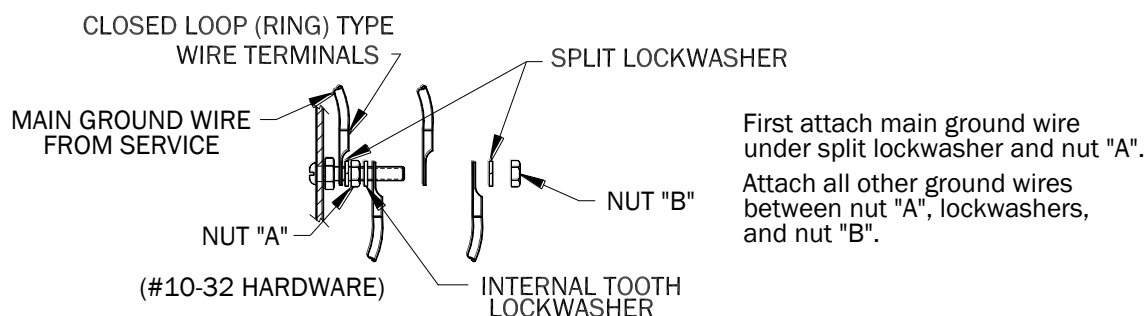

Figure 11
5. Connect all monitor ground wires and the service ground wire as shown in Figure 11. (The number of wires varies with the number of monitors installed).